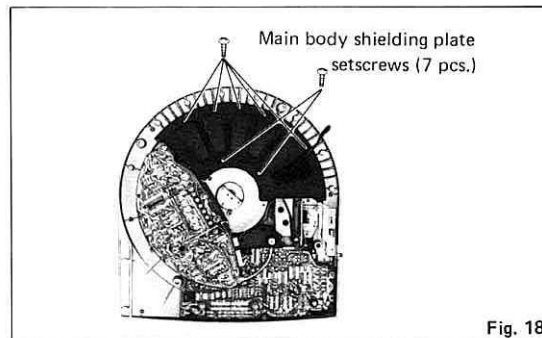

Fig. 18
3. Remove 7 setscrews of the shielding cover. (See Fig.18.)